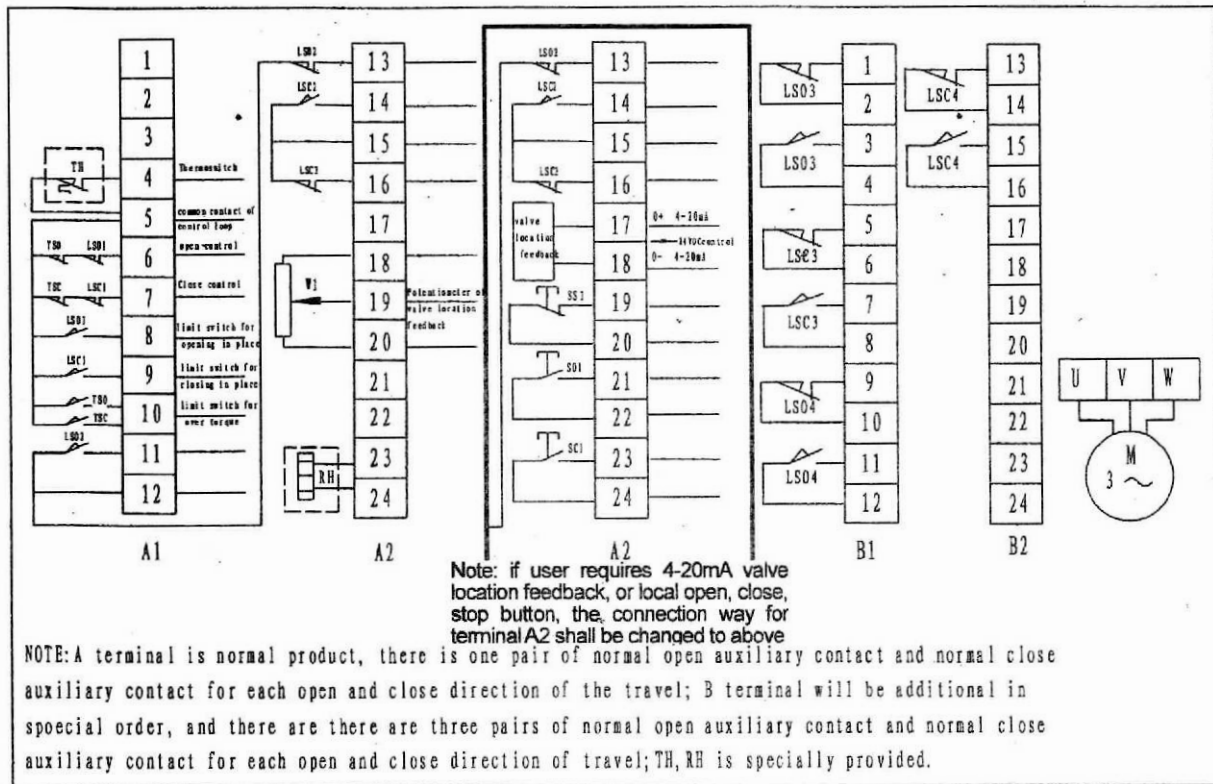

Figure 13
5.9.1 Refer to the Figure 13 for the connection diagram of outdoor electric actuator.